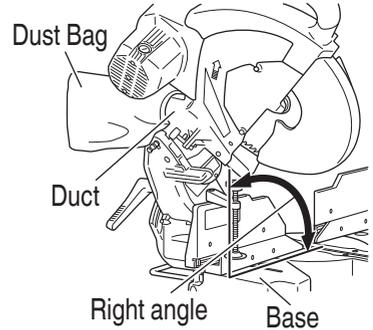

Fig. 31
20. Using the dust bag (Standard accessory) (Fig. 31)